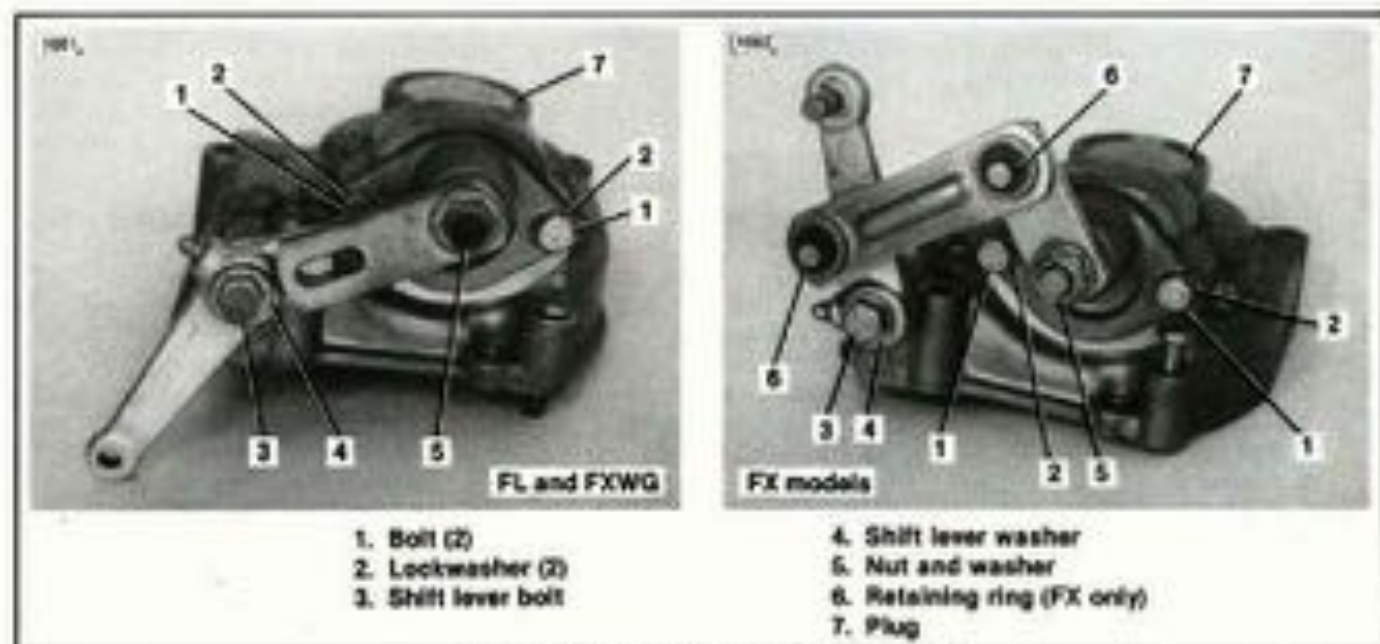

Figure 7-14. Plate Shifter Cover
2. See Figure 7-14. Remove the five cover mounting bolts and washers. The bolt shown with the wrench on it can only be loosened due to interference with the shifter shaft cover. The bolt can be removed from its mounting hole after the shifter shaft cover is removed.
3. See Figure 7-14. Remove the gauge from the cover, turn it over and place it on the transmission case as shown. Make sure the shifter forks register in the gauge blocks.